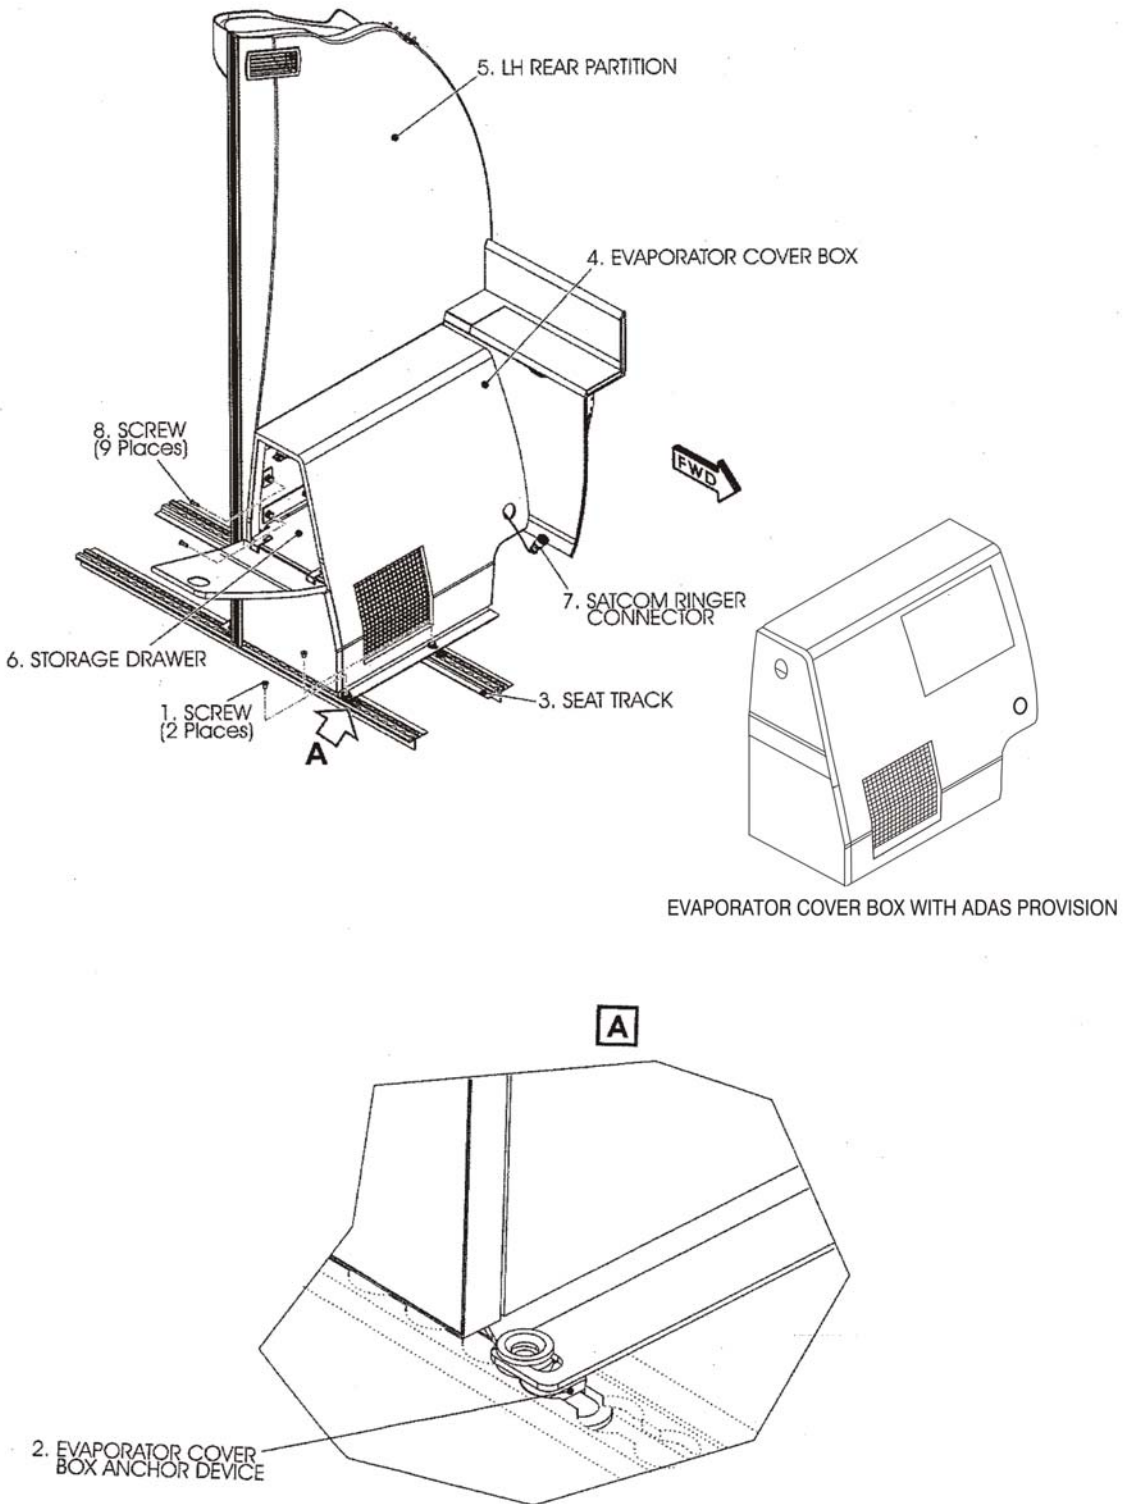

Fig. 248 - Evaporator Cover Box (NORDAM) - Removal / Installation
33. Evaporator Cover Box (NORDAM) - Removal (Ref. to Fig. 248)
- (1) Remove the Forward Facing Seat as described in this section.
- (2) Remove the carpet to gain access to the Evaporator Cover Box lower side.
- (3) Remove the two screws (1) that secure the Evaporator Cover Box (4) and the Evaporator Cover Box Anchor Device (2) to the Seats Tracks (3).
- (4) Remove the nine screws (8) that secure the Evaporator Cover Box (4) to the LH Rear Partition (5). The screws are located in the Storage Drawer (6).
- (5) Carefully lift the Evaporator Cover Box (4) until is possible reach the Satcom Ringer Electrical Connector (7).
- (6) Disconnect the Satcom Ringer Electrical Connector (7).
- (7) Remove the Evaporator Cover Box (4).
34. Evaporator Cover Box (NORDAM) - Installation (Ref. to Fig. 248)